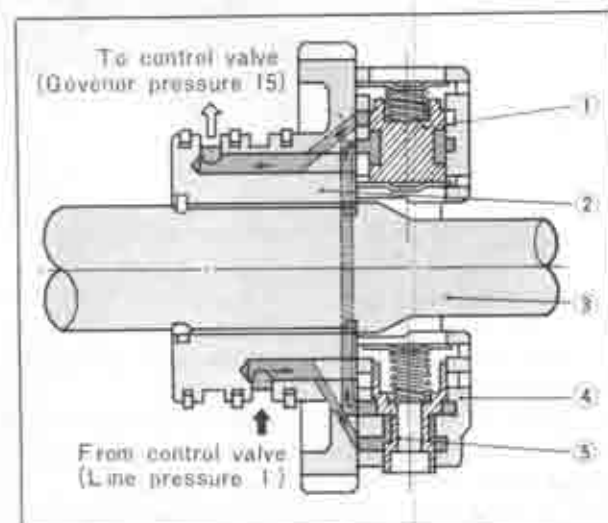

Fig. 2-34 Cross-sectional view of governor
9. To determine if secondary governor is in good condition, blow air under light pressure into line pressure hole in Fig. 2-34 to listen for noise like a model plane.